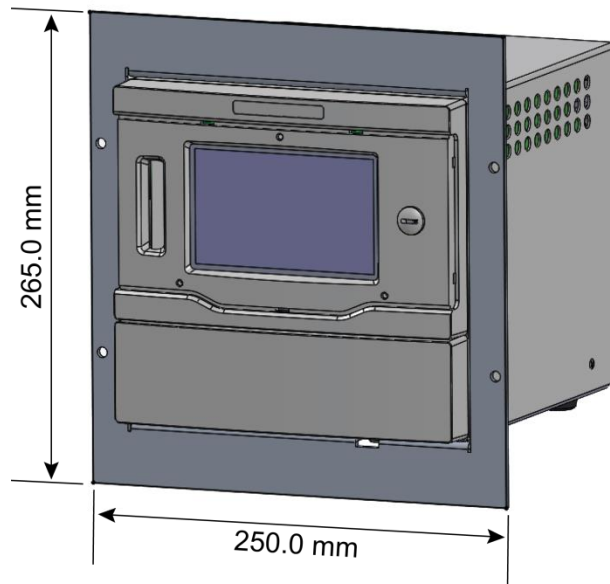

Figure 5-2: Panel installation
Make sure that an addition support is provided under the base of the analyzer towards the rear of the enclosure (Figure 5-2). Do not support the analyzer by the side mounting brackets alone.
1. Refer to Figure 5-2. Prepare a cut-out in a suitable panel.